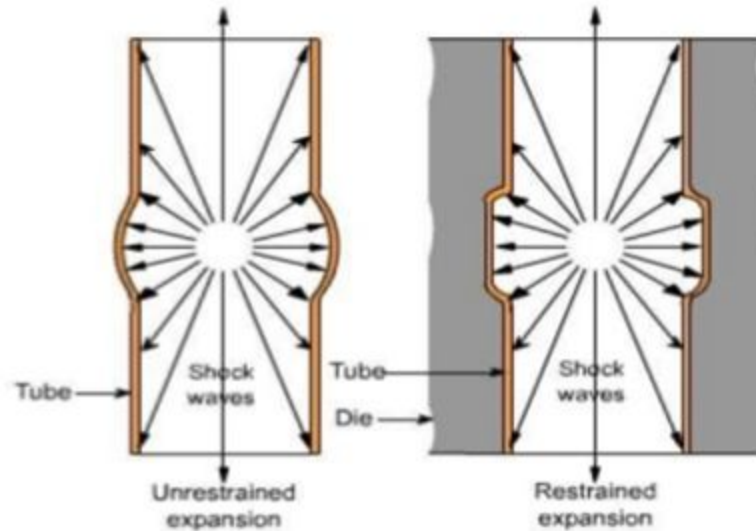

Fig 2 Unrestrained and restrained electro-hydraulic forming process.
- The deformation can be controlled by applying external restraints in the form of die or by varying the amount of energy released, Fig 2.